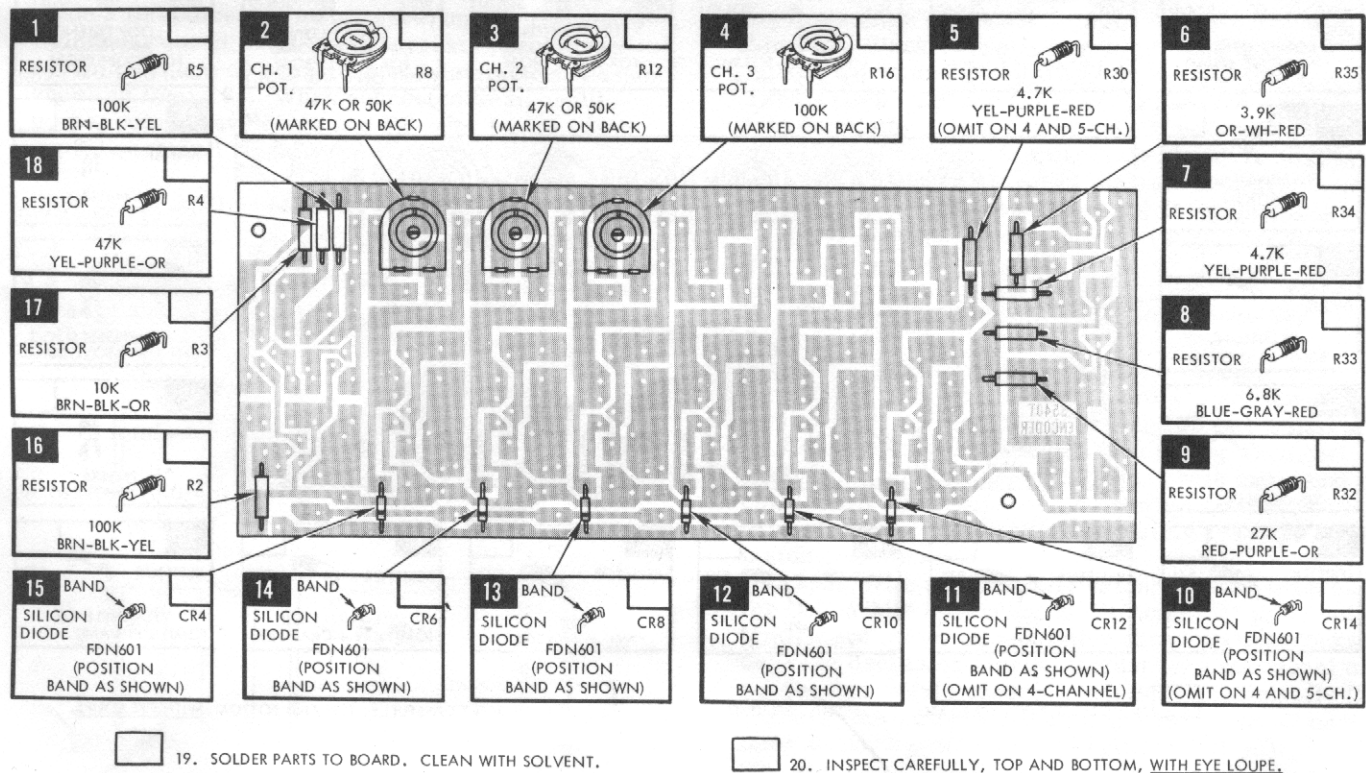
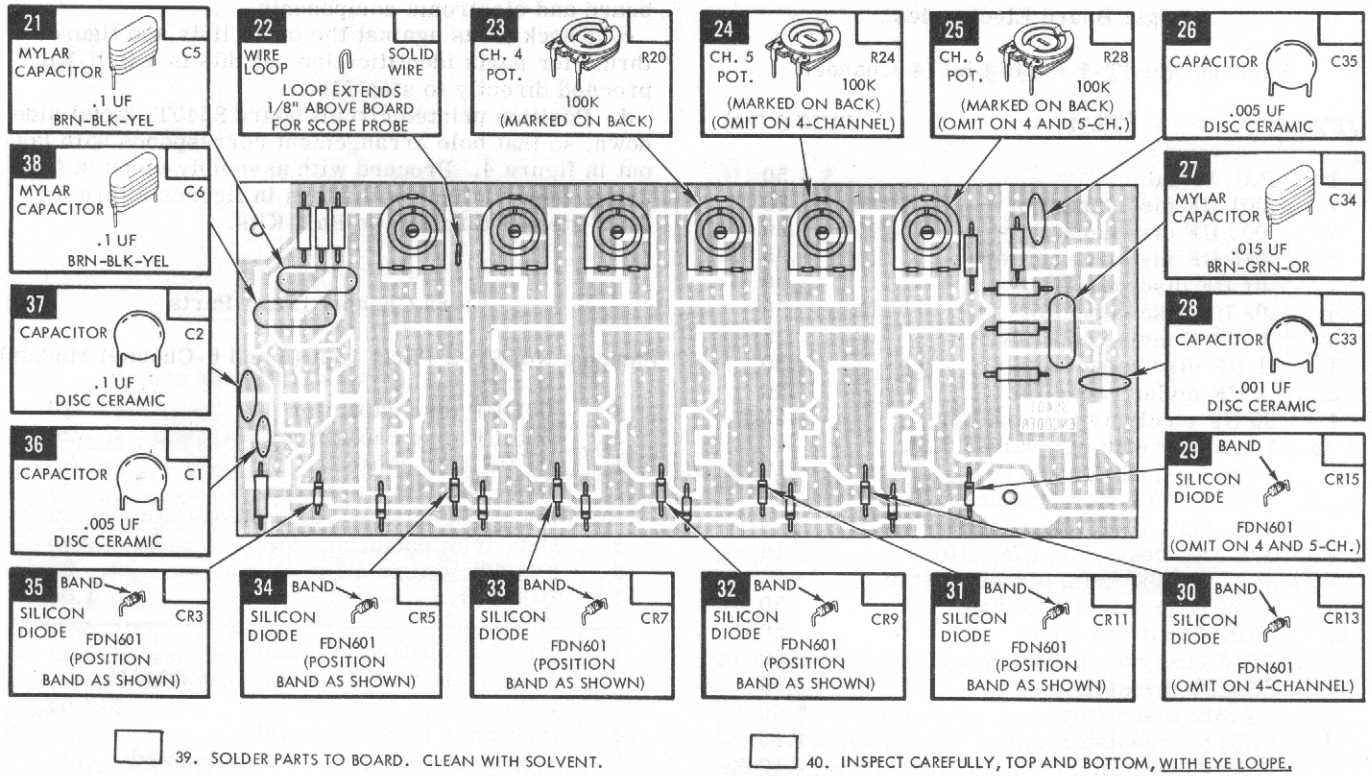

Figure 4. Logic Board Assembly (Sheet 1 of 6)
Figure 5. Logic Board Assembly (Sheet 2 of 6)
c. Check parts against the parts lists and figures 4 thru 9 for parts identification. If this is a Half-Kit, proceed directly to step 116.
d. Position printed circuit board S540T, metal side down, so that hole arrangement corresponds with layout in figure 4. Proceed with assembly steps in figure 4, then continue with steps in figures 5 thru 9. Omit steps 1 thru 115 on Half-Kits.